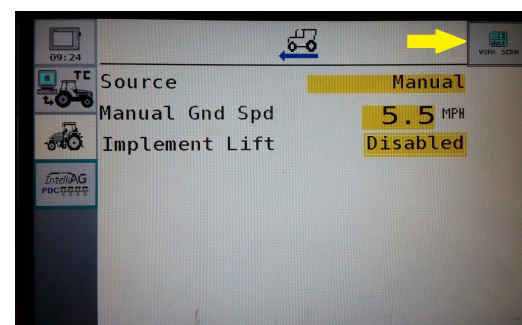

Figure 53
Step 6. Select **Main Work Screen** icon as shown in Figure 53.